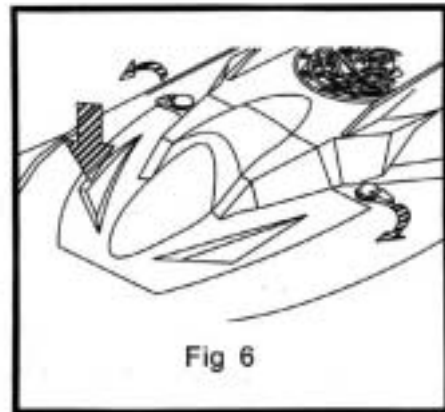

Fig 6
4. Replace BATTERY DOOR front first by aligning front edge of door and compartment, lowering rear of door into place and turning LATCHES to locked position (latches click onto little "bumps" in door). (Fig. 6)